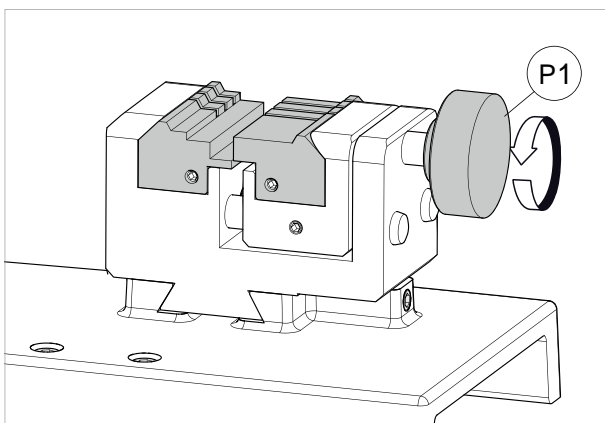

Fig. 53
- 2) Loosen the knob (P1) by a couple of turns (Fig. 53).